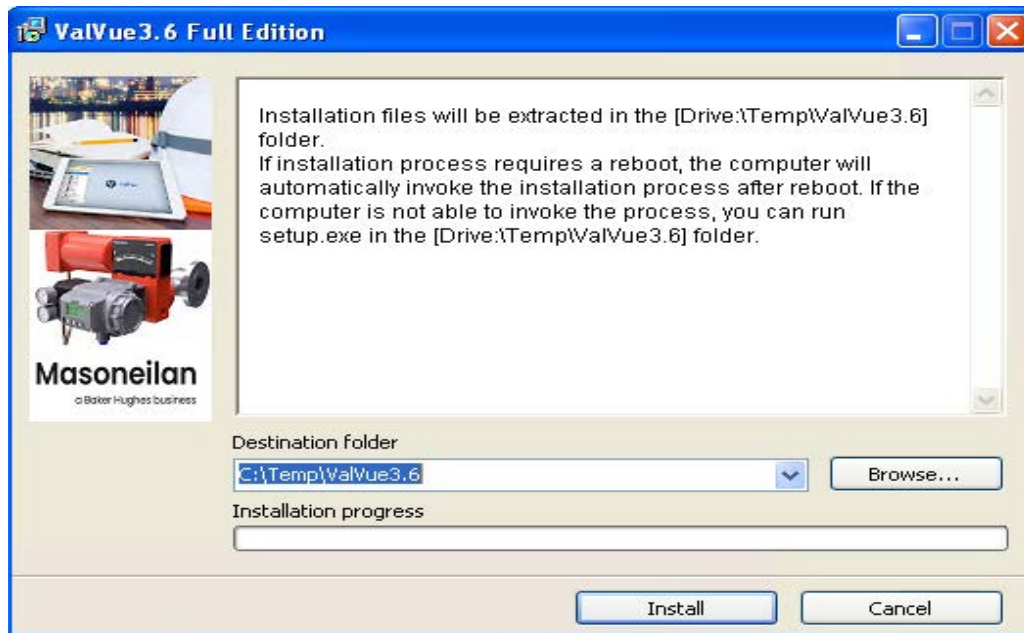

Figure 2 Install Unzip
1. Double-click **ValVue3.xFullEditionInstaller.exe** and Figure 2 appears.